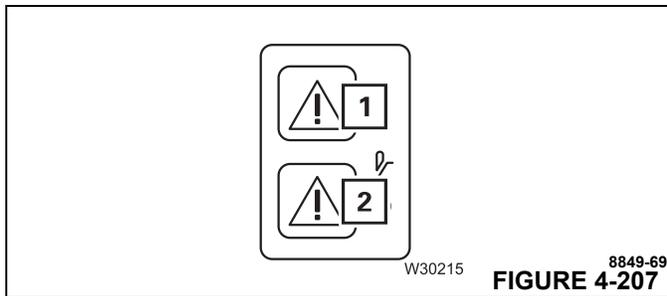

FIGURE 4-207
The crane movements are reactivated when you have returned to a normal operating state below the maximum permissible load capacity – lamps (1, Figure 4-207) and (2) go out.